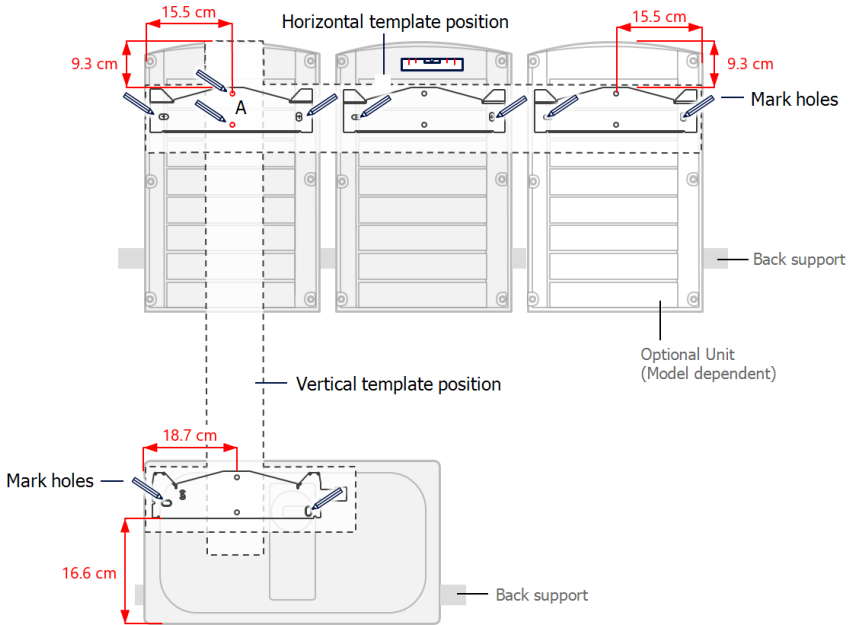

Figure 16: Marking the drilling holes locations
When installing the inverter on a stud framing or a rail, avoid wobbly installation by adding back support at the lower back side of the Synergy Manager and Synergy Units (See *Figure 16*)
3. Level the mounting template horizontally against the wall and mark the drilling hole locations for the bracket of the Synergy Units (see pencil icons in *Figure 16*).